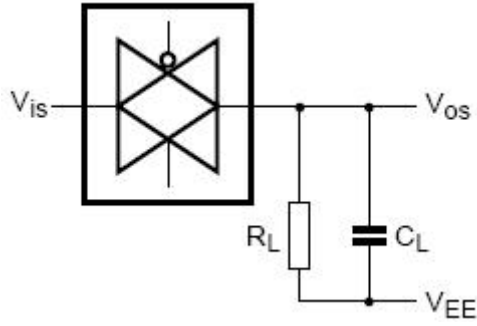

图7、方波失真度、关断频率和导通频率测试图
| 方波失真度 | d_{sin} | 通道开; $R_L = 10\text{ k}\Omega$; $C_L = 15\text{ pF}$; $f_{is} = 1\text{ kHz}$; 见图 7 | $V_{DD}=5V$ | 0.25 | % |
- $R_L = 1\text{ k}\Omega$; $C_L = 5\text{ pF}$, 通道关断, $20\log V_{os}/V_{is} = -50\text{ dB}$, 见图7
- $R_L = 1\text{ k}\Omega$; $C_L = 5\text{ pF}$, 通道开, $20\log V_{os}/V_{is} = -3\text{ dB}$, 见图7